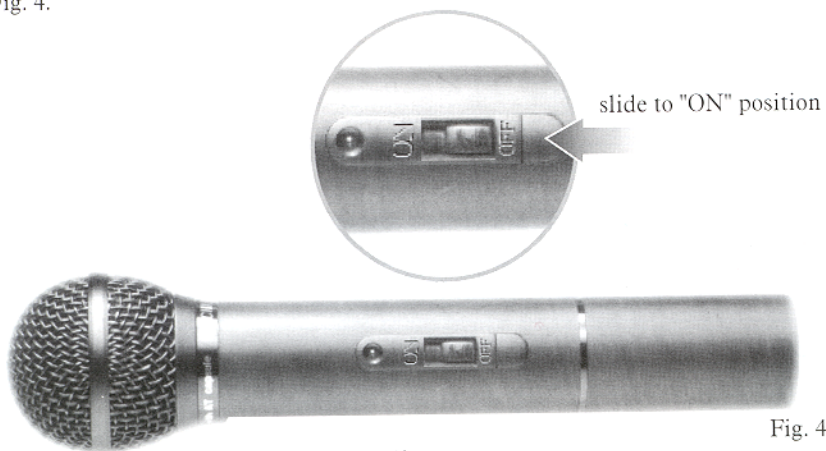

Fig. 4
4. After putting the battery cover back to the housing slides the switch to "ON" position as shown in Fig. 4.